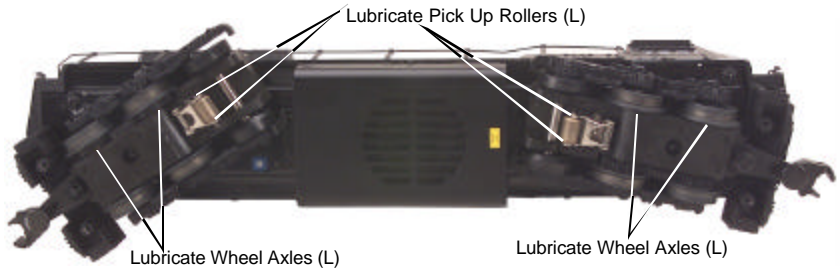
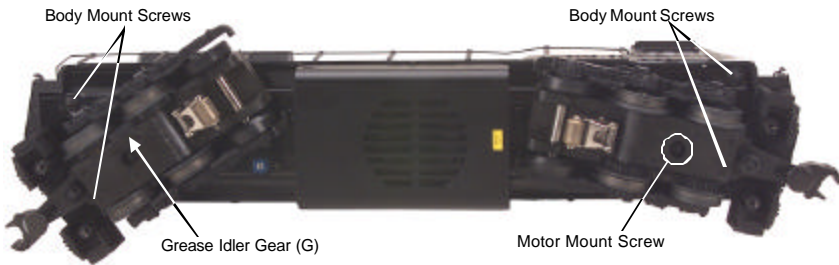

Figure 2. Lubrication Points on the Engine
Figure 3. Greasing Points on the Engine and Locations of Body Mounting Screws
Although the engine was lubricated at the factory, it is important that you lubricate the chassis before operation. Lightly grease the outside idler and drive gears (marked “G” in Fig.3 on pg. 9) to prevent them from squeaking. Use light household oil and follow the lubrication points marked “L” in Fig. 2 on pg. 1. Do not over-oil. Use only a drop or two on each pivot point.
You should regularly lubricate all outside idler gears and pickup rollers to prevent them from squeaking. Use light household oil and follow the lubrication points marked “L” in Fig. 2. Do not over oil. Use only a drop or two on each pivot point.
1. Remove the Phillips screws from the chassis, as seen in Figure 3, then lift the body away from the chassis. Use caution when removing the body to make sure the handrails clear the cab housing so that the paint is not damaged.
2. Remove the truck blocks from the chassis by unscrewing the black Phillips motor mount screw (labeled motor mount screw in Figure 3) on the bottom of each truck block .
It is also a good idea to lubricate the outside truck block idler and drive gears with grease occasionally. Add grease to the points marked with “G” in Figure 3.